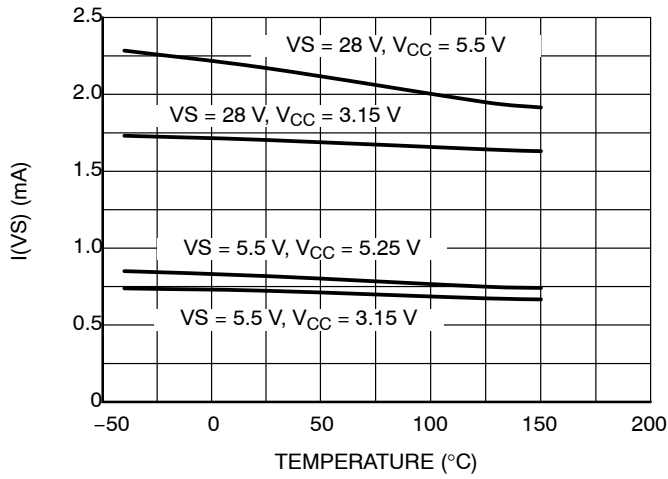

Figure 10.  $I(VS)$  vs. Temperature
- Refer to Figure 10. I(VS) versus Temperature.